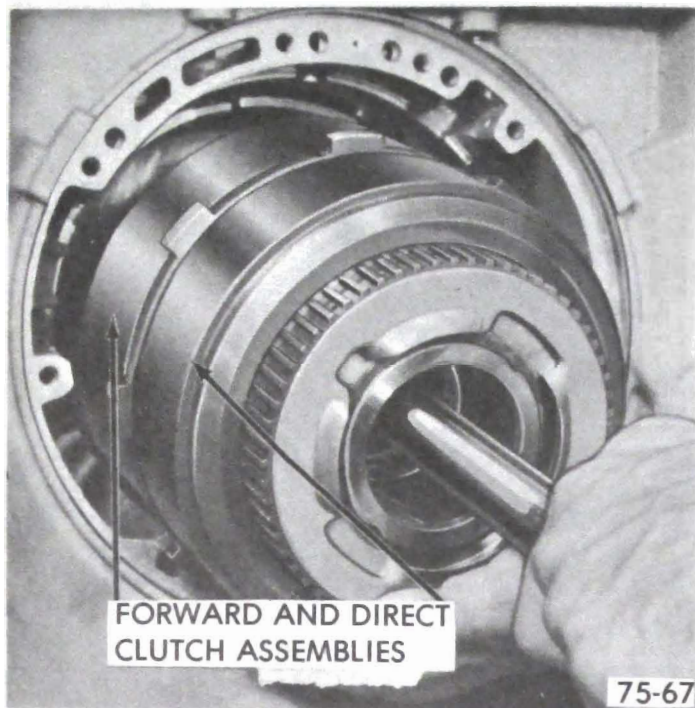

Figure 75-243
2. Install direct clutch assembly to forward clutch assembly. Install assemblies into case making certain forward clutch faced plates are positioned over input ring gear and the tangs on direct clutch housing are installed into slots on the sun gear drive shell. See Figure 75-243.